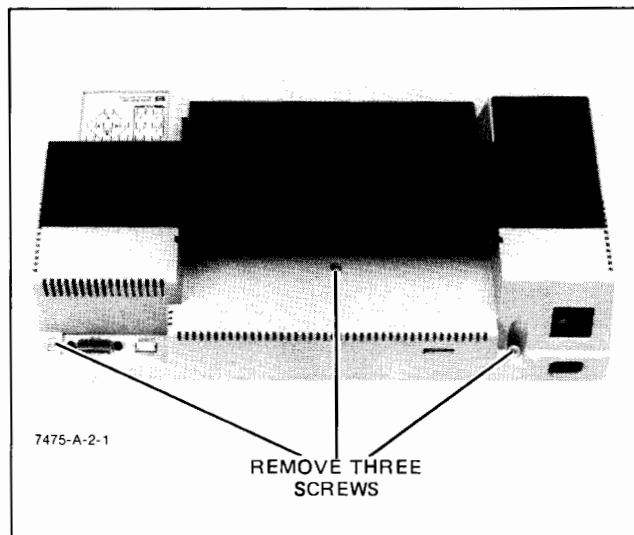

Figure 3-1. Top Case Removal
- Set the HP 7475A LINE switch to OFF (O) and disconnect the line cord.
- Remove the HP 7475A top case by removing the screws indicated in Figure 3-1.